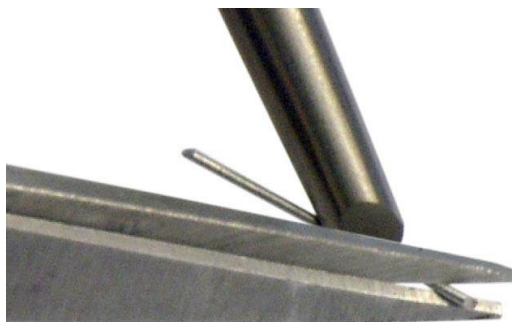

Fig. 6-22
1. Clamp the wire with the tweezers so that it projects beyond its edge for 2÷3 mm (see Fig. 6-22).